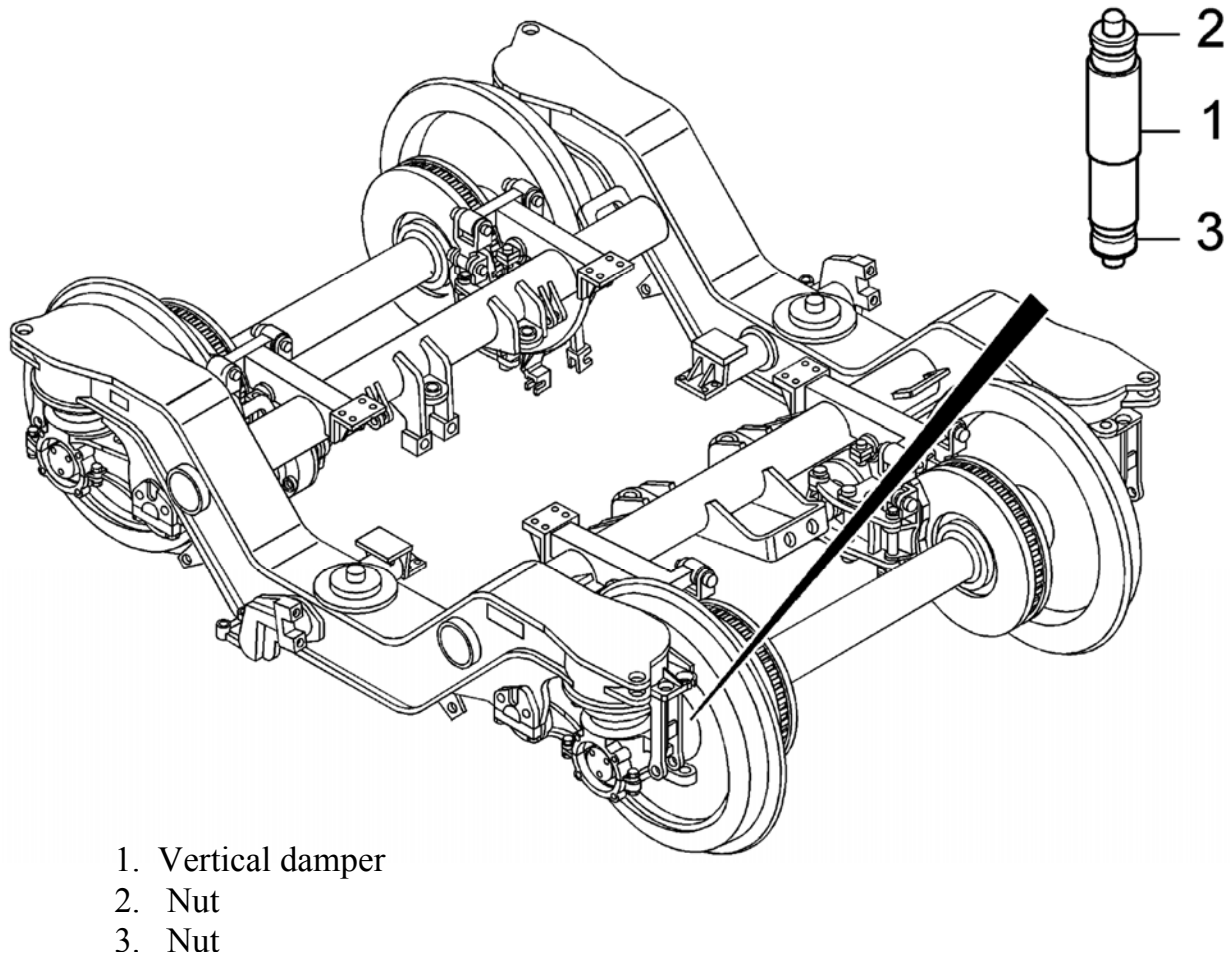

FIG. 4.39 REMOVAL OF VERTICAL DAMPERS
The first step for separation of the wheel sets from the bogie frame is the removal of the four vertical dampers (1 - FIG. 4-39) of the primary suspensions. In order to do so, loosen the nuts (2) and (3) at both damper ends and remove it.